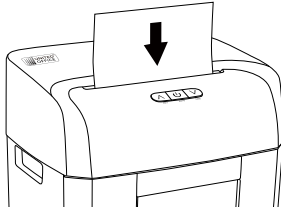

Fig. 3
- ◆ Insert paper into the middle of the cutter opening ④ from above and in portrait format (see fig. 3). The appliance starts automatically and switches itself off automatically if no further paper is inserted.